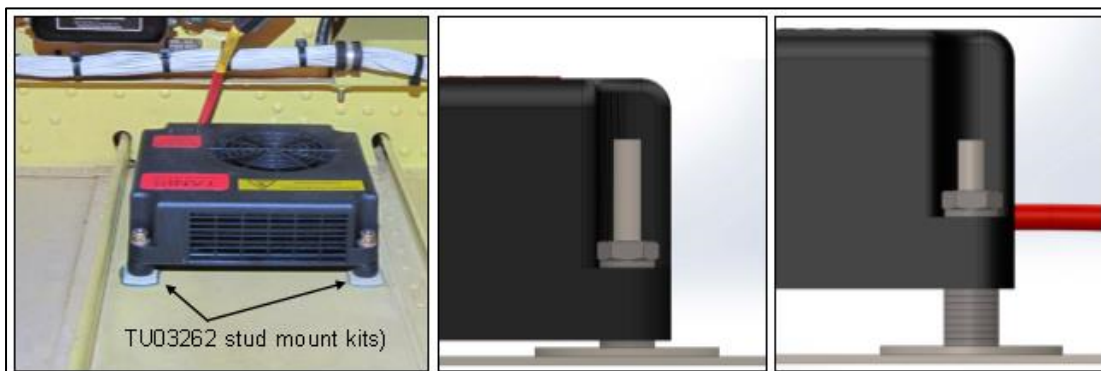

Figure 7.8. Example of heater located with Stud Mount Kits p/n: TU03262 (4-each heater). Use additional spacers and/or washer as required.
- d) Secure heater to mounting structure or bracket using all four mounting tabs. For hardware and bracket suggestions refer to Figures 7.8. through 7.12 and AC 43.13-2.